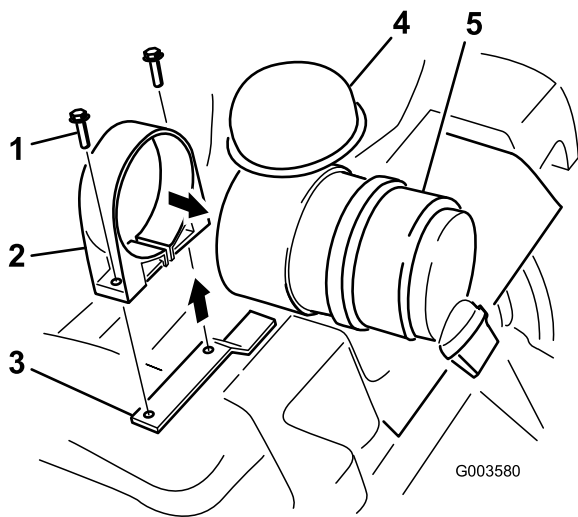

Figure 3
6. Spread the air-cleaner strap open and pull it over the end of the canister where the filter was taken out (Figure 3).